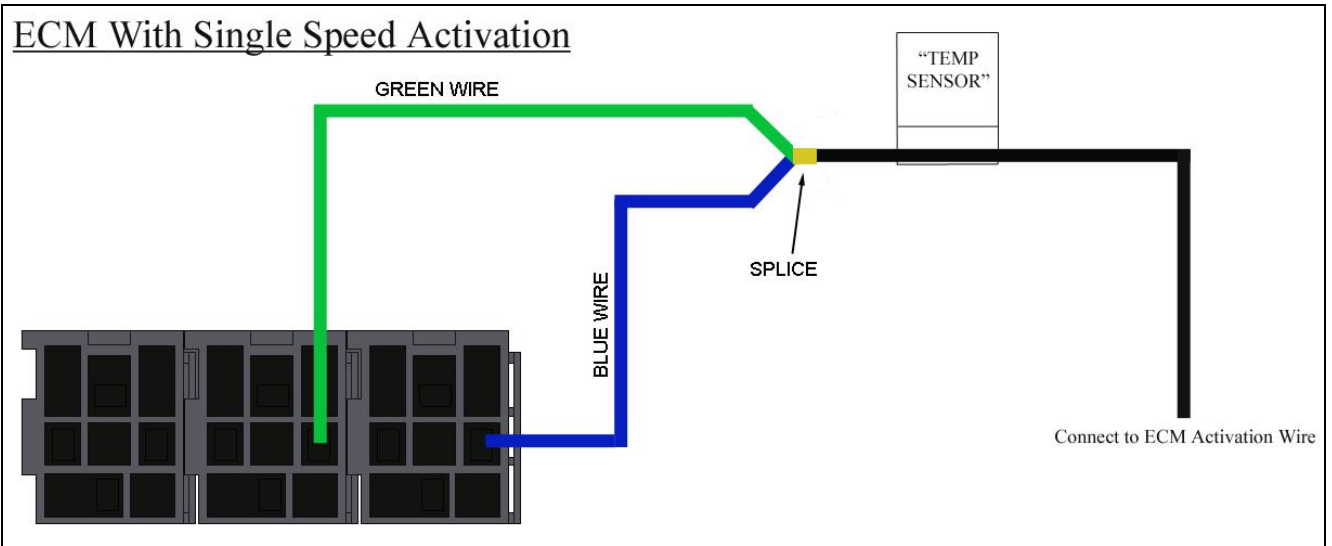

Figure 1
2. The other black wire in the “Temp SWITCH” group, the wire printed “FAN ON SIGNAL-TEMP SWITCH TO RELAY” will go back to a splice at the relays with a green wire and a blue wire. If you only have a single activation wire from your ECM, this black wire will need to connect to this single ground activation wire coming from your ECM; see **Figure 1**.